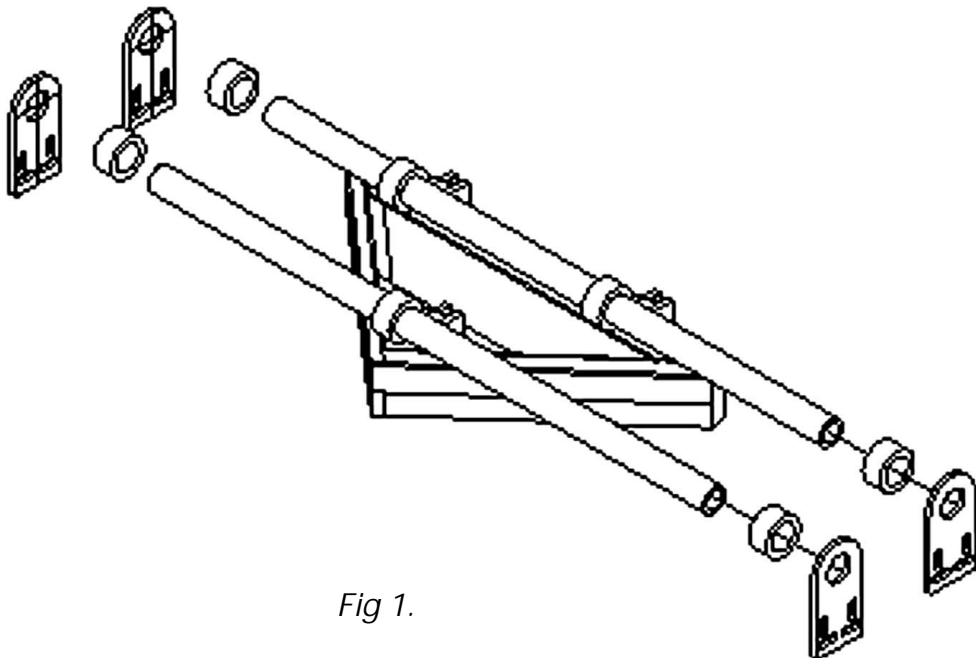

Fig 1.
**Step 1** Assemble the plow into position in the conveyor frame as shown in Fig. 1. The plow is tensioned into the belt by gravity, when the three connecting rods are hanging straight down it will be time to change the rubber on the plow. The collars on the mounting tubes may be located inside or outside of the mounting plate. Their only purpose is to prohibit the shaft from lateral movement.